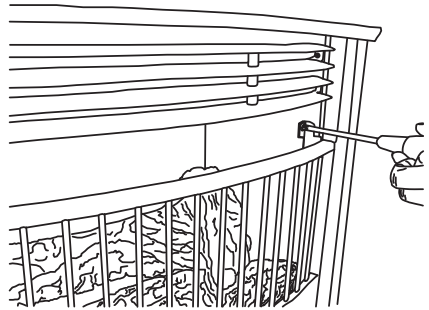

Figure 30 - Removing Grill
13. Remove 2 screws securing grill to stove front. Carefully set grill aside (see Figure 30). Rotate handle and open the door.
22. Replace grill with 2 screws removed previously (see Figure 30, page 11).